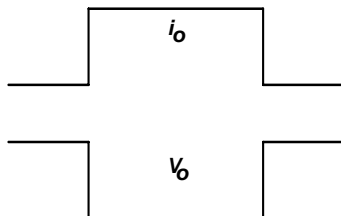
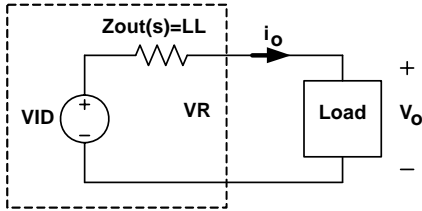

FIGURE 15. DESIRED LOAD TRANSIENT RESPONSE WAVEFORMS
FIGURE 21. VOLTAGE REGULATOR EQUIVALENT CIRCUIT
Assuming the compensator design is correct, Figure 15 shows the expected load transient response waveforms if C_n is correctly selected. When the load current I_{core} has a square change, the output voltage V_{core} also has a square response.
Figure 15 shows the desired load transient response waveforms. Figure 21 shows the equivalent circuit of a voltage regulator (VR) with the droop function. A VR is equivalent to a voltage source (= VID) and output impedance $Z_{out}(s)$. If $Z_{out}(s)$ is equal to the load line slope LL, i.e. constant output impedance, in the entire frequency range, V_o will have square response when I_o has a square change.